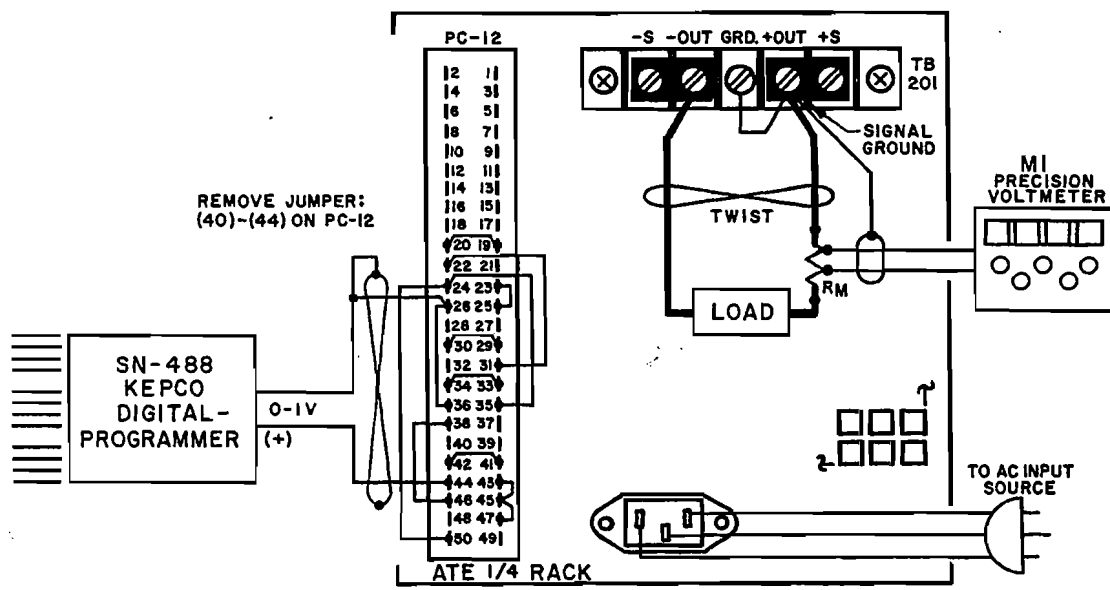

FIG. 3-11 CONNECTIONS FOR OUTPUT CURRENT CONTROL WITH A 0-1 VOLT CONTROL SIGNAL (KEPCO SN-488 DIGITAL PROGRAMMER).
3-58 GENERAL. The ATE output current, controlled by a front panel CURRENT CONTROL rheostat in the local control mode, can be remotely controlled by disconnecting the 15V bias from the non-inverting input of the EXT. CURRENT COMPARISON AMPL at the REAR PROGRAMMING CONNECTOR, and applying a 0 to 1 volt external control signal with reference to the ATE COMMON terminal. Since the non-inverting input of the EXT. CURRENT COMPARISON AMPL is used, only the small amplifier bias current must be supplied by the external control source. IN ALL CURRENT PROGRAMMING APPLICATIONS, THE FRONT PANEL CURRENT CONTROL SETTING OF THE ATE ACTS AS A "BACK-UP" CURRENT LIMIT AND MUST BE SET SLIGHTLY HIGHER THAN THE REQUIRED MAXIMUM OUTPUT CURRENT. An application, demonstrating this control method is described in PAR. 3-60 and illustrated in FIG. 3-11.
- 1) Connect the EXT. CONTROL VOLTAGE, (Model SN-488 Digital Programmer), the LOAD and the PRECISION VOLTMETER (M1) to the ATE as shown in FIG. 3-11.
Note: The output current value can be measured directly by means of a suitable ammeter in series with the load or, as indicated in FIG. 3-11, indirectly by means of the precision voltmeter (M1) across a current measuring resistor (R_M). R_M should be selected such that a convenient range on the precision voltmeter can be used, e.g., for a 10 ampere output current, use a 0.1 ohm, resistor to produce a one volt full scale reading. If an electronic voltmeter is used, it should be batter-operated to avoid ground loops.